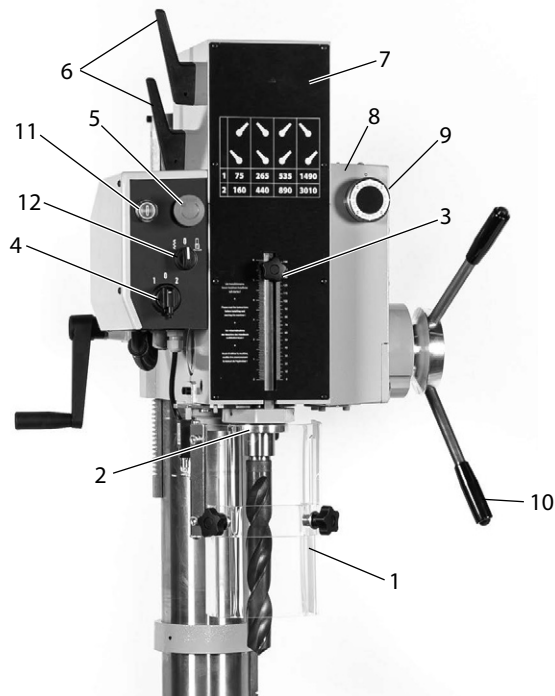

Figure 8 - Drill head.
See the location of the emergency stop push button (5) in figure 8. The emergency stop shall be used in case of emergency to stop the machine as fast as possible.